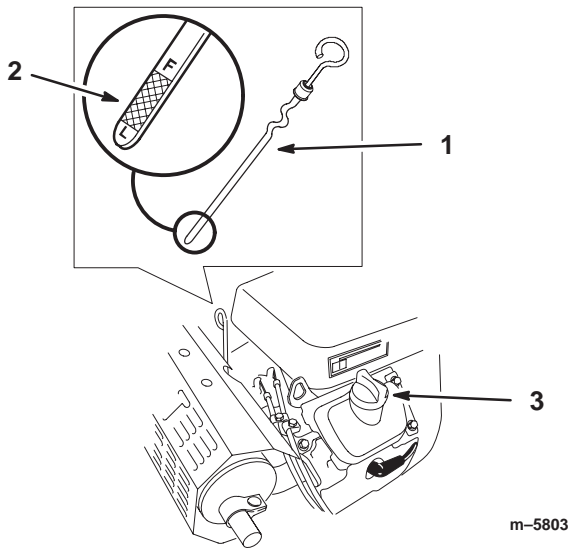

Figure 36
2. Clean around the oil dipstick (Fig. 36) so dirt cannot fall into engine.
3. Pull the oil dipstick and wipe the metal end clean (Fig. 36).
4. Slide the oil dipstick fully into the engine. Pull the dipstick out and look at the metal end (Fig. 36). If oil level is low, slowly pour only enough oil into the filler tube to raise the level to the full mark.
7. Slowly pour approximately 80% of the specified oil, on page 30, into the filler cap (Fig. 36). Now check the oil level; refer to Checking Oil Level, page 30. Slowly add additional oil to bring it to the full mark.